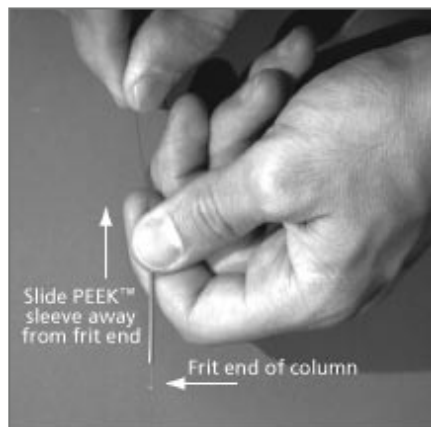

FIGURE 4 IntegraFrit™ column after the FEP sleeve has been removed
- Using your other hand, push the PEEK sleeve against the FEP sleeve until the FEP sleeve falls off. This may take a LOT of force. Do not be afraid to push hard. You will have to move the PEEK sleeve about 3 to 5 mm. Figure 4 shows the column after the FEP sleeve has been pushed off.